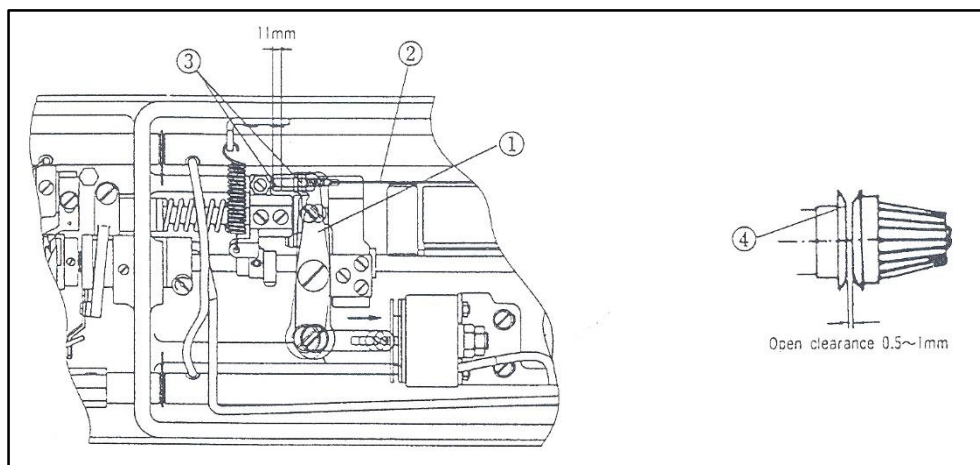

Figure 7.9
The thread release unit is operated by the movement of the thread trimming solenoid. As shown in Fig. 7.9 the thread release gap can be adjusted by moving the thread release cable wire (2) which is attached to the thread release operation lever (1). Release the two fixing nuts (3). Then move the cable wire (2) to the left and tighten the nuts (3). The thread release gap will have increased. If the cable (2) is moved to the right the gap will be decreased. Adjust the cable to give a gap of 0.5 - 1 mm between the discs (4) when the thread release is operated. Ensure the discs are closed when the lever is released. The stroke of the thread release lever (1) is 5 mm. Adjust the lever so that the discs (4) do not open during the first 2 mm of lever travel and that they are open when the lever is pulled 2-5 mm. Refer to Fig. 7.9